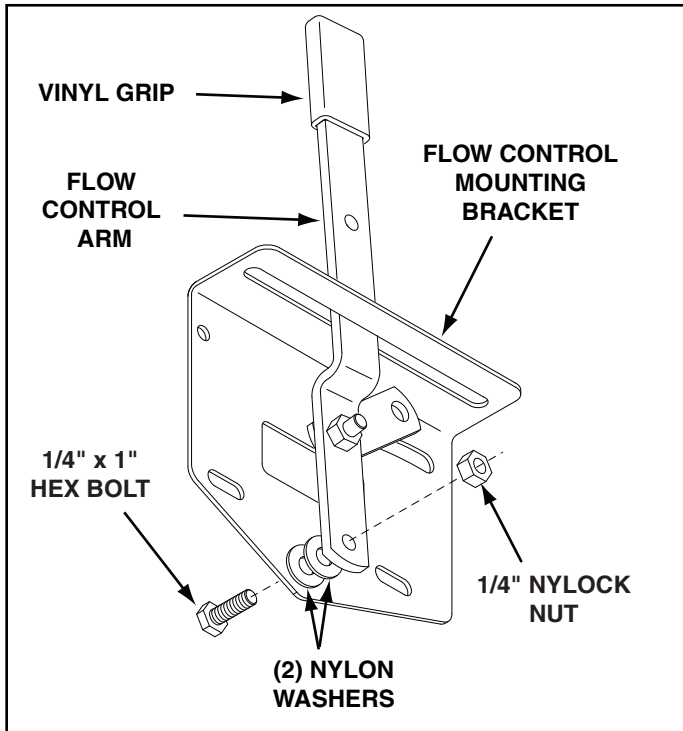

FIGURE 8
15. Assemble the flow control arm to the flow control mounting bracket using a 1/4" x 1" hex bolt, two nylon washers and a 1/4" nylock nut as shown in figure 8. **Tighten carefully.** The flow control arm should be snug, but should pivot with no more than a slight resistance.
16. Assemble the vinyl grip. See figure 8.